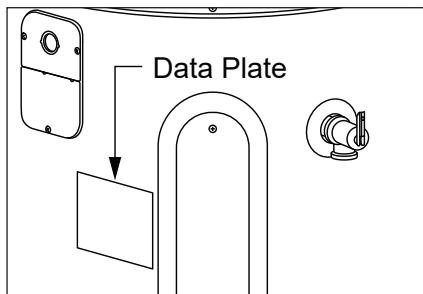

Figure 22 - The water heater's electrical requirements can be determined from the data plate.
- 1** This water heater requires a 120 VAC single phase 15 amp power supply, at 60Hz. Check the water heater's data plate (Figure 22) and ensure that the home's voltage, wiring size (ampacity) and circuit breaker rating and type are correct for this water heater. Refer to the wiring diagram located on the water heater, and on page 38 of this manual, for the correct electrical connections. Ensure that wire sizes, type, and connections comply with all applicable local codes. In the absence of local codes, follow NFPA-70 and the current edition of the National Electric Code (NEC).